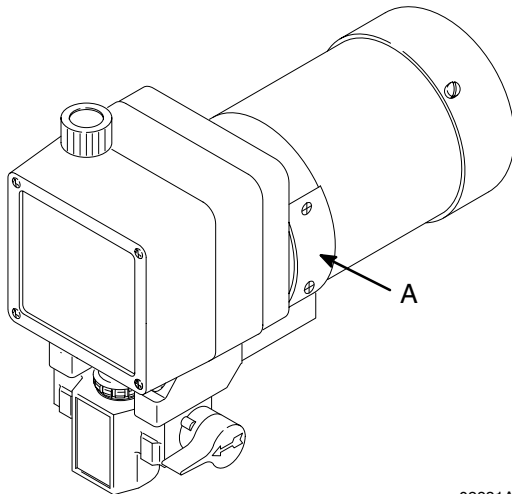

Fig. 15 02831A
1. Remove both inspection covers (A) and their gaskets. See Fig 15.